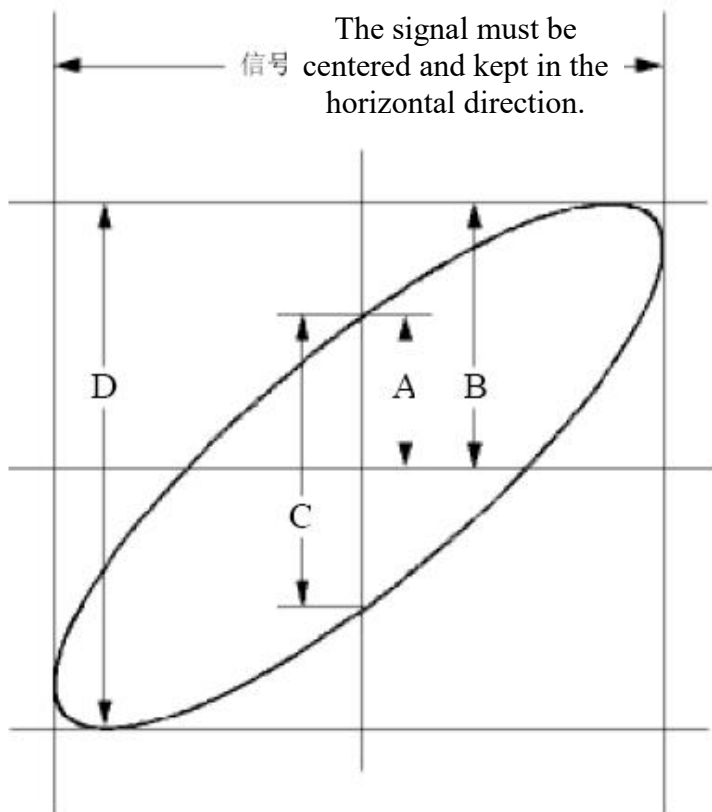

Figure 6-6 Lissajous Graph
- (1) Set the probe menu attenuation coefficient for **10X** and that of the switch in the probe for **10X** (see "*How to Set the Probe Attenuation Coefficient*" on P20).
- (2) Connect the probe of channel 1 to the input of the network and that of Channel 2 to the output of the network.
- (3) Push the **Autoset** button, with the oscilloscope turning on the signals of the two channels and displaying them in the screen.
- (4) Turn the **Vertical Scale** knob, making the amplitudes of two signals equal in the rough.
- (5) Push the **Acquire** button to display the right menu.
- (6) In the right menu, select **XY Mode** as **ON**. The oscilloscope will display the input and terminal characteristics of the network in the Lissajous graph form.
- (7) Turn the **Vertical Scale** and **Vertical Position** knobs, optimizing the waveform.
- (8) With the elliptical oscillogram method adopted, observe and calculate the phase difference (see *Figure 6-6*).